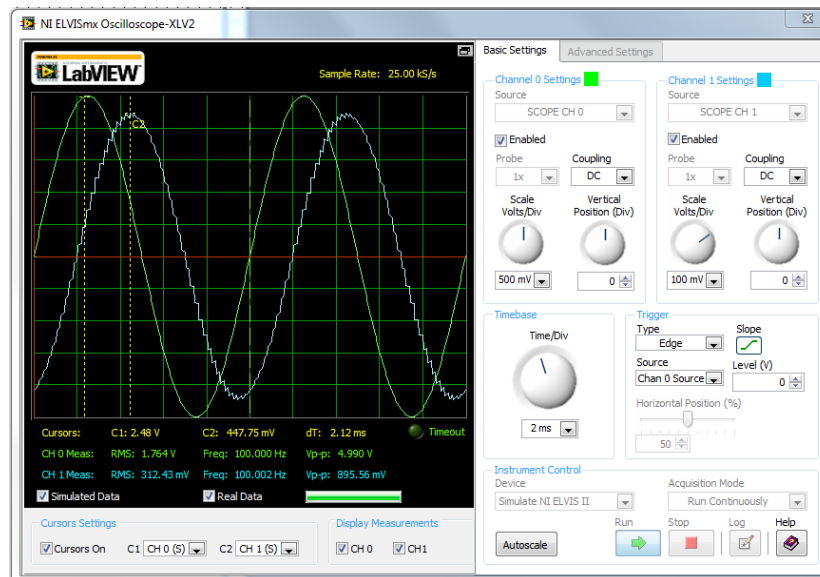

Figure A2: Common Emitter Amplifier Output
5. Since in this lab you will examine the nonlinear characteristics of the common emitter amplifier, you will examine the input and output characteristics at two different input voltages. Make the waveforms as large as possible in the oscilloscope and capture the screen for inclusion in your prelab submission (see Figure A2). Using the maximum peak positive values of each waveform, what is the apparent gain (**output/input**) of the circuit?